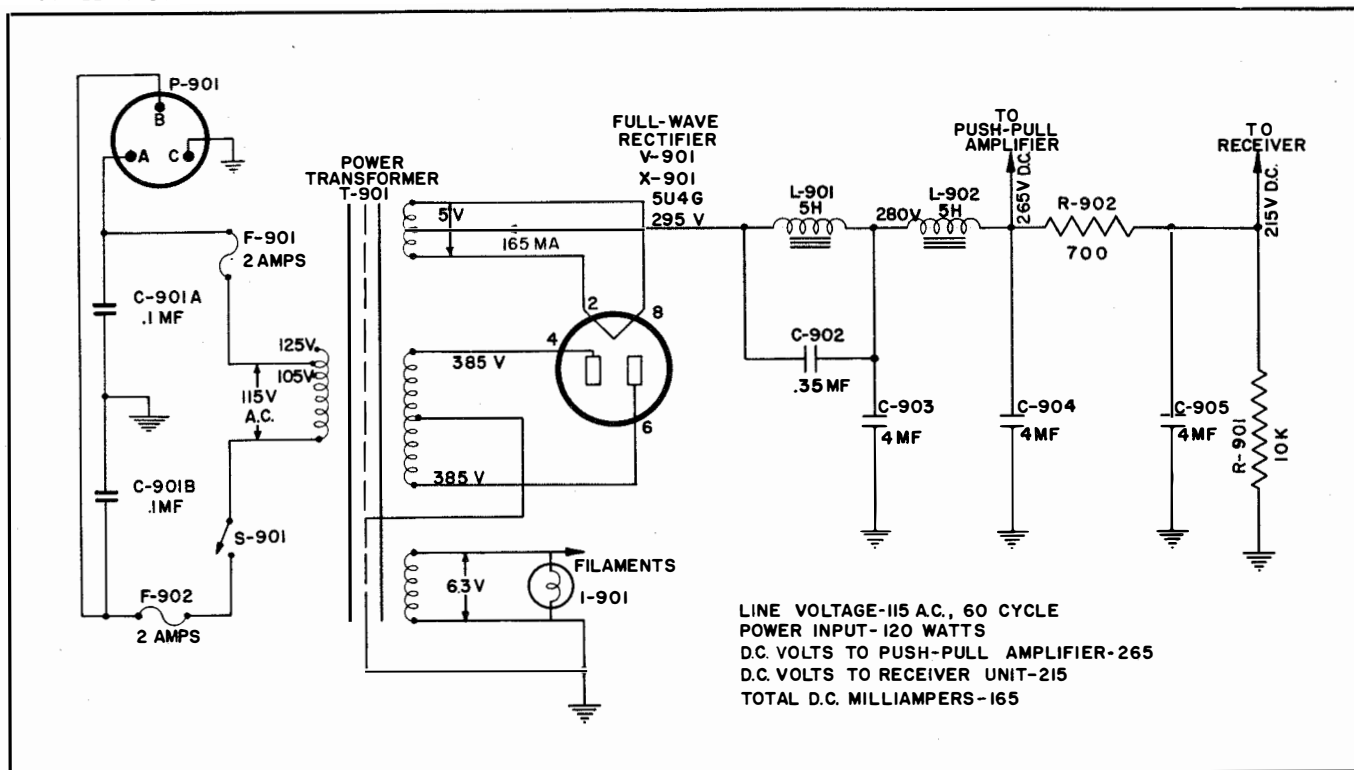

Figure 2-15. Power Supply and Filter Circuits
c. THE POWER SUPPLY CIRCUIT. (See Figure 2-15).